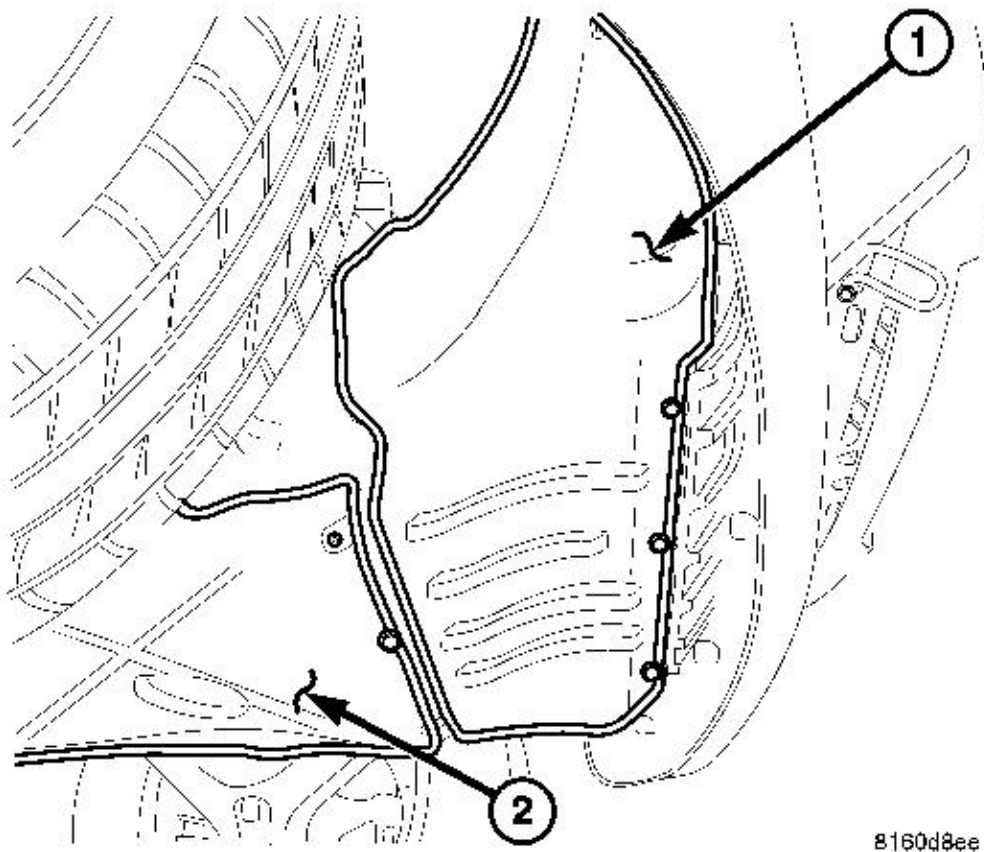

Fig. 316: Front/Intermediate Splash Shields
5. Install the intermediate (2) and front (1) underbody splash shields. See **Fig. 316**.